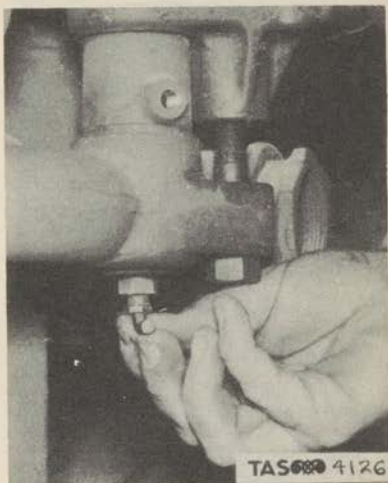

Figure 174. Lifting Lower Valve Balls.
(7) Raise the lower valve balls by pushing up on the lifters found under each ball. (Fig. 174)